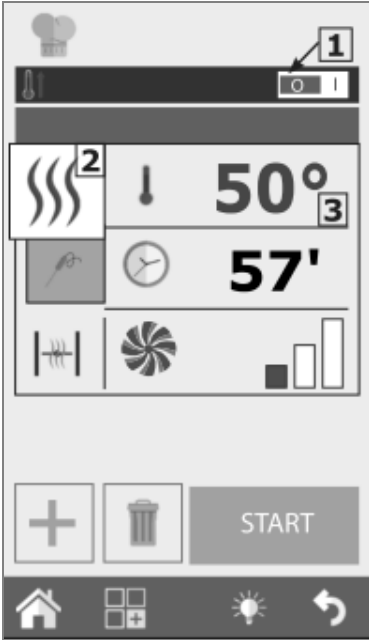
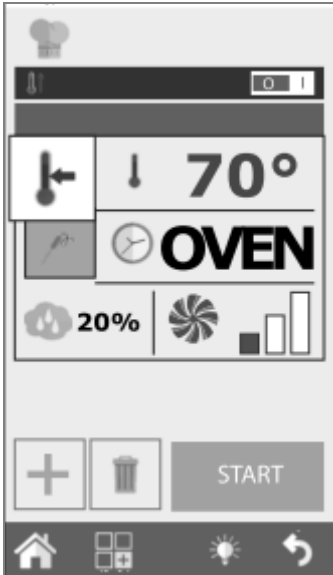

Fig. 11
Fig. 16
Key 2 (Fig. 11) is set as default in the “**Convection**” cooking mode (hot air). By pressing this key, the cooking mode can be changed to **Mixed** or **Steam**. Alternatively, set a **maintenance cycle (HOLD)**, **message cycle** or **smoking mode**.
By pressing key **3** (Fig. 11) you can set the cooking chamber temperature. The temperature that can be set varies depending on the selected cooking method.
To modify the hold phase, press the cooking mode key (2, Fig. 11) and select HOLD (Fig. 16).